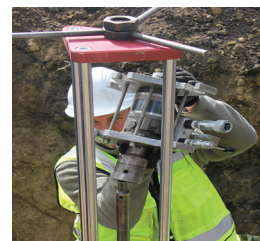

FIGURE 28
2.4.7) Lower the drive unit onto the machined hex of the saw mandrel. Confirm the drive unit is fully seated onto the machined hex of the saw mandrel (see Figure 28).